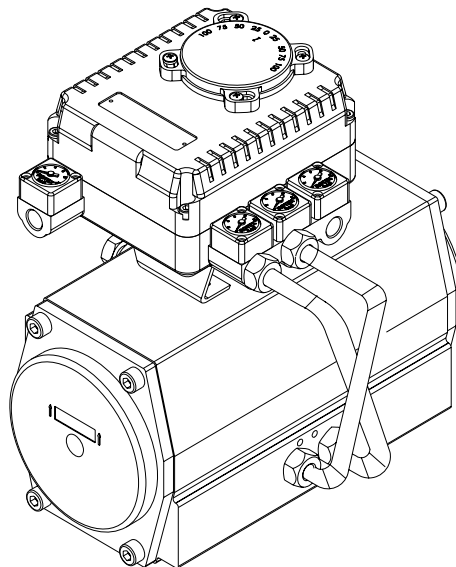

Fig. 5
(2) Attach bracketed RTX – 1200 to the actuator by using slotted screw and hexagon nuts. When tightening bolts, use spring washer or similar for firm attachment to the actuator, so RTX – 1200 have no effect by vibration or any other impact. The positioner is installed as shown in **Fig. 5**.